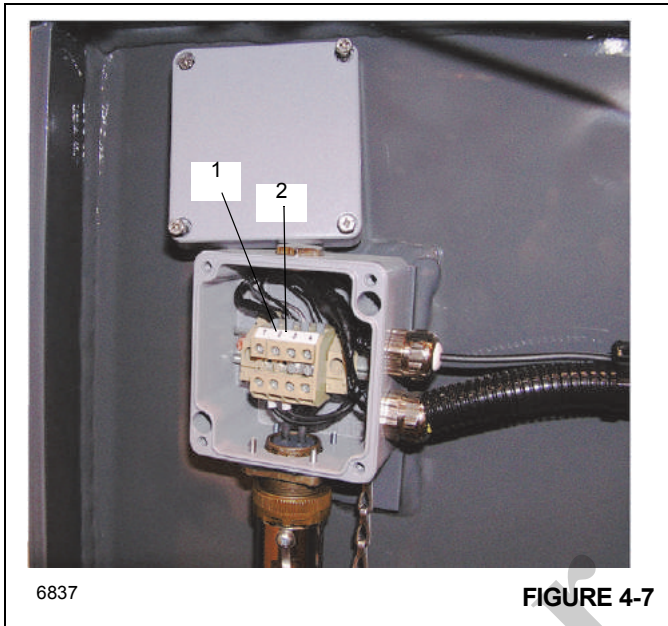

FIGURE 4-7
- b. Disconnect "SHD" wire (Figure 4-7, 1) from terminal 1 and "CORE" wire (Figure 4-7, 2) from terminal 2.